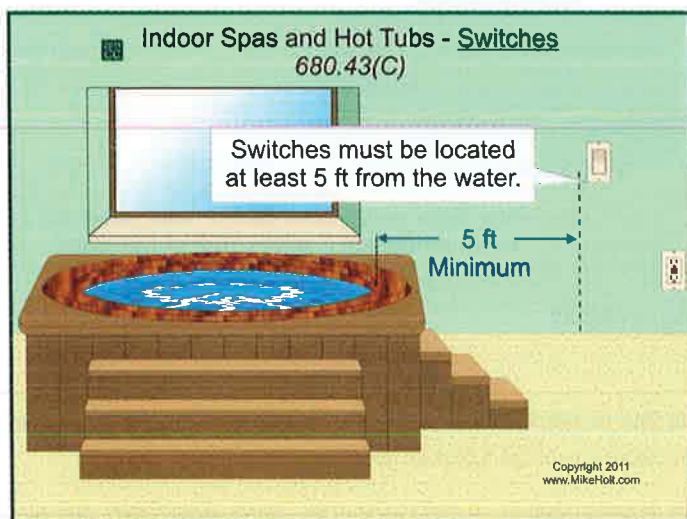

Figure 680-43
- (2) Surface-mounted luminaires with a glass or plastic globe, a non-metallic body, or a metallic body isolated from contact, and suitable for use in damp locations.
(C) Switches. Switches must be located not less than 5 ft, measured horizontally, from the inside walls of the indoor spa or hot tub. **Figure 680-43**